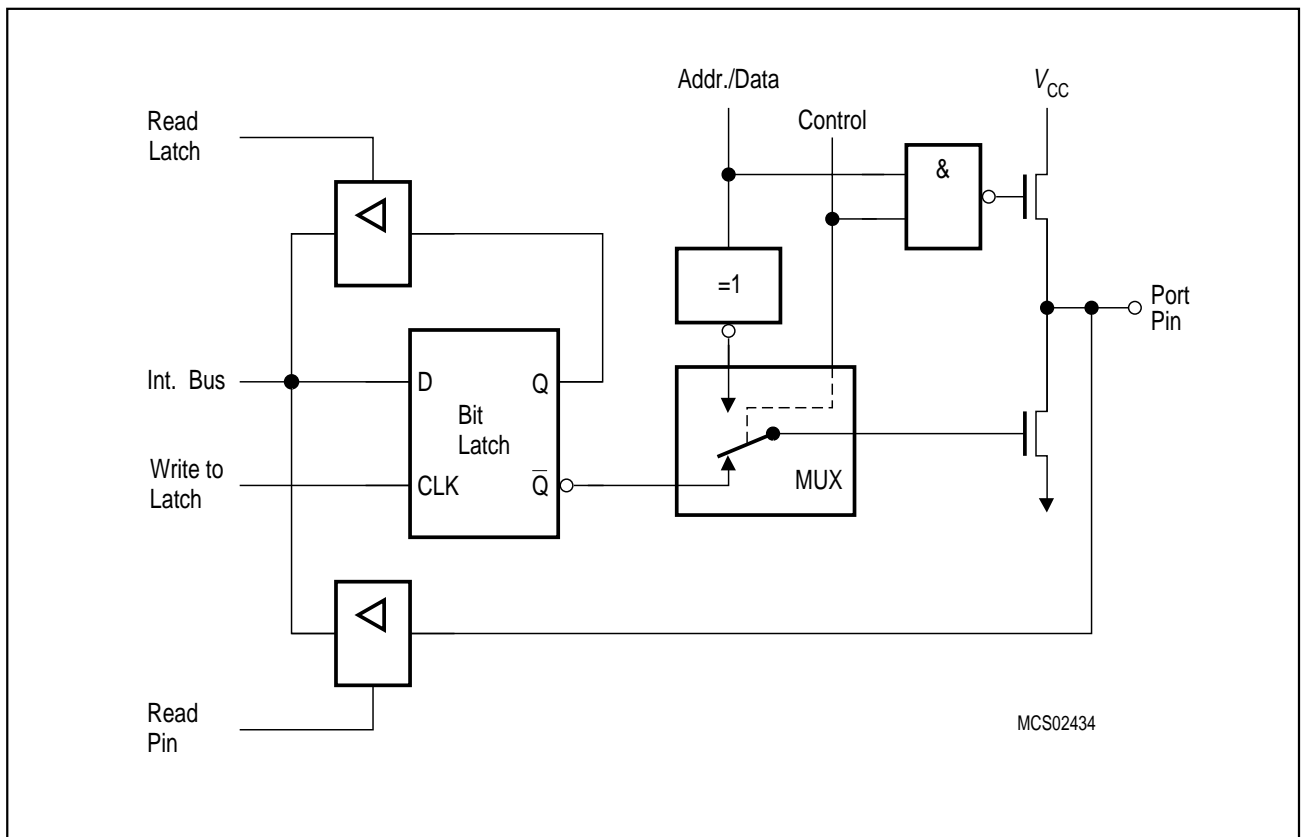
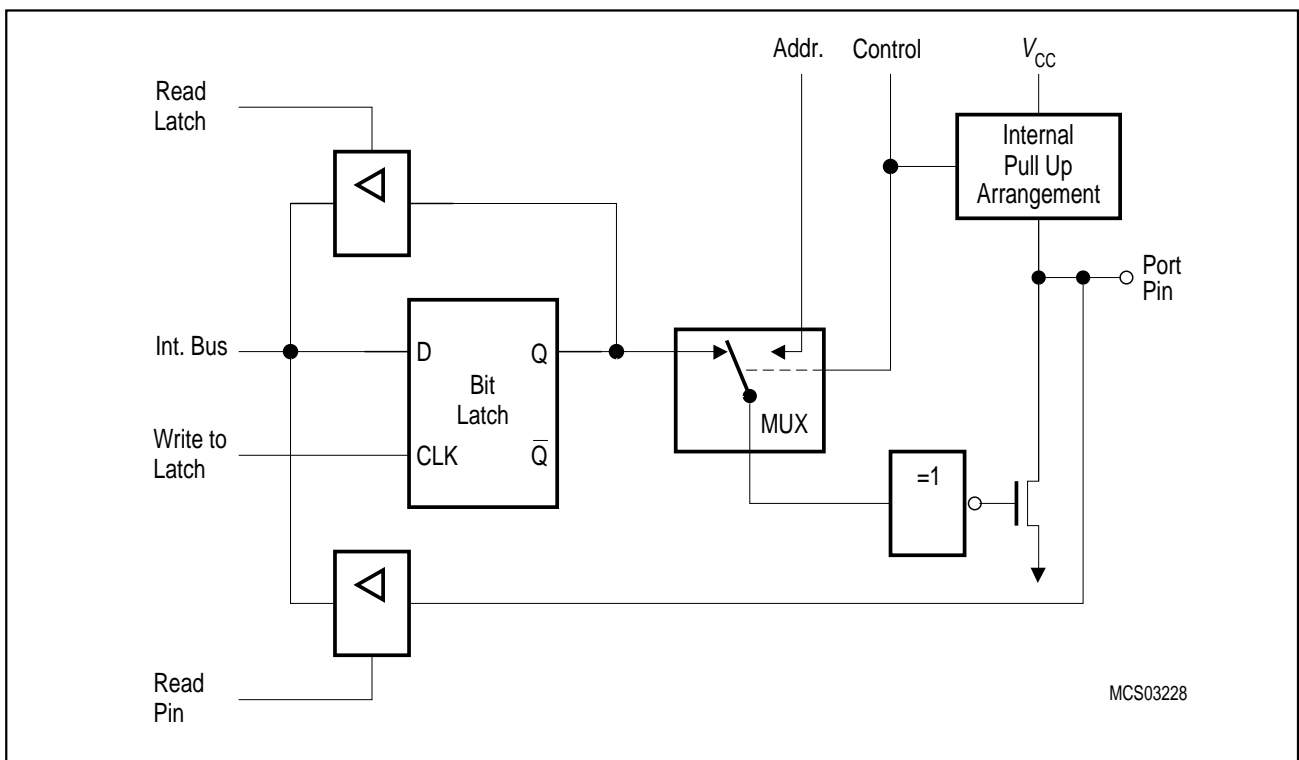
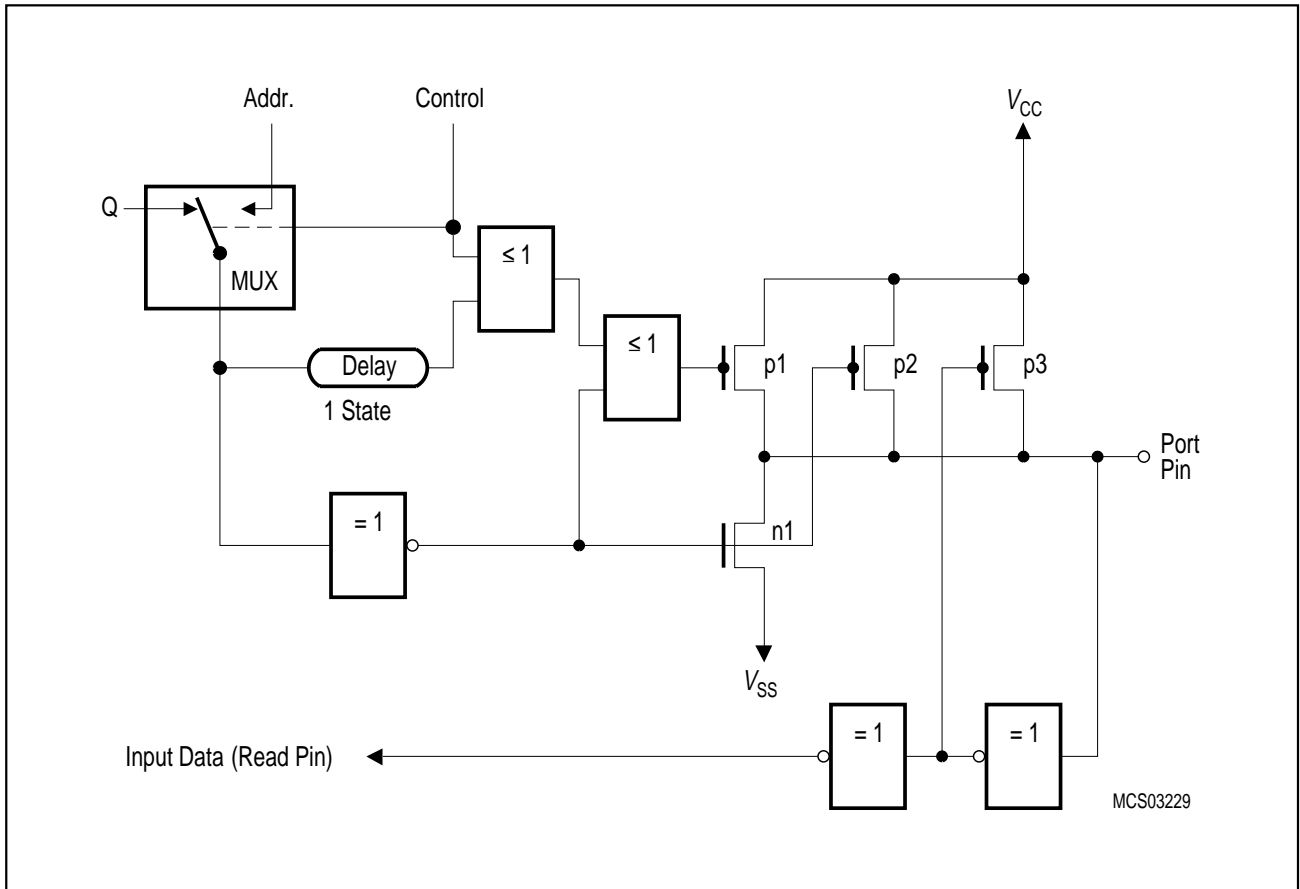

Figure 6-3
Figure 6-5
Figure 6-6
Port 0, in contrast to ports 1 to 4, is considered as "true" bidirectional, because the port 0 pins float when configured as inputs. Thus, this port differs in not having internal pullups. The pullup FET in the P0 output driver (see **figure 6-3**) is used only when the port is emitting 1's during the external memory accesses. Otherwise, the pullup is always off. Consequently, P0 lines that are used as output port lines are open drain lines. Writing a "1" to the port latch leaves both output FETs off and the pin floats. In that condition it can be used as high-impedance input. If port 0 is configured as general I/O port and has to emit logic high-level (1), external pullups are required.
As shown in **figure 6-3** and below in **figure 6-5**, the output drivers of ports 0 and 2 can be switched to an internal address or address/data bus for use in external memory accesses. In this application they cannot be used as general purpose I/O, even if not all address lines are used externally. The switching is done by an internal control signal dependent on the input level at the $\bar{E}A$ pin and/or the contents of the program counter. If the ports are configured as an address/data bus, the port latches are disconnected from the driver circuit. During this time, the P0/P2 SFR remains unchanged. Being an address/data bus, port 0 uses a pullup FET as shown in **figure 6-3**. When a 16-bit address is used, port 2 uses the additional strong pullups p1 (**figure 6-6**) to emit 1's for the entire external memory cycle instead of the weak ones (p2 and p3) used during normal port activity.